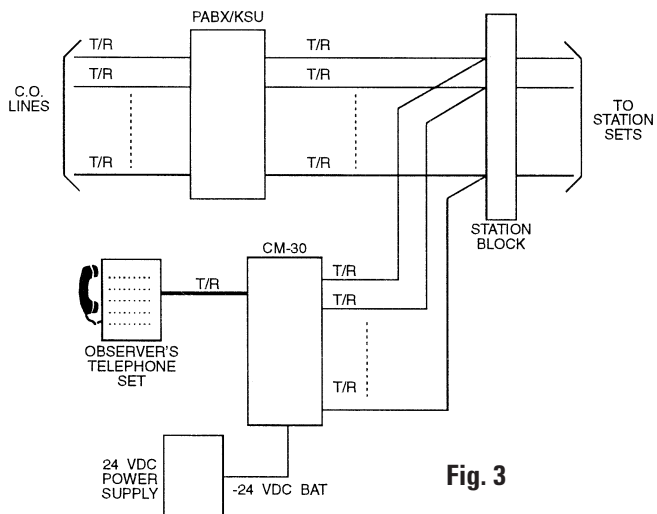

Fig. 3
- 2.02 **30 Line Capacity** through a key system telephone or a single-line telephone designated as the observer's telephone. When a key system telephone is used, one pick-up key is dedicated for service observing. When a single-line telephone is used, the station is dedicated for service observing purposes only. See figure 3. To expand the CM-30 in increments of 30 lines, add a Dees CMX-300 (max. 90 lines).